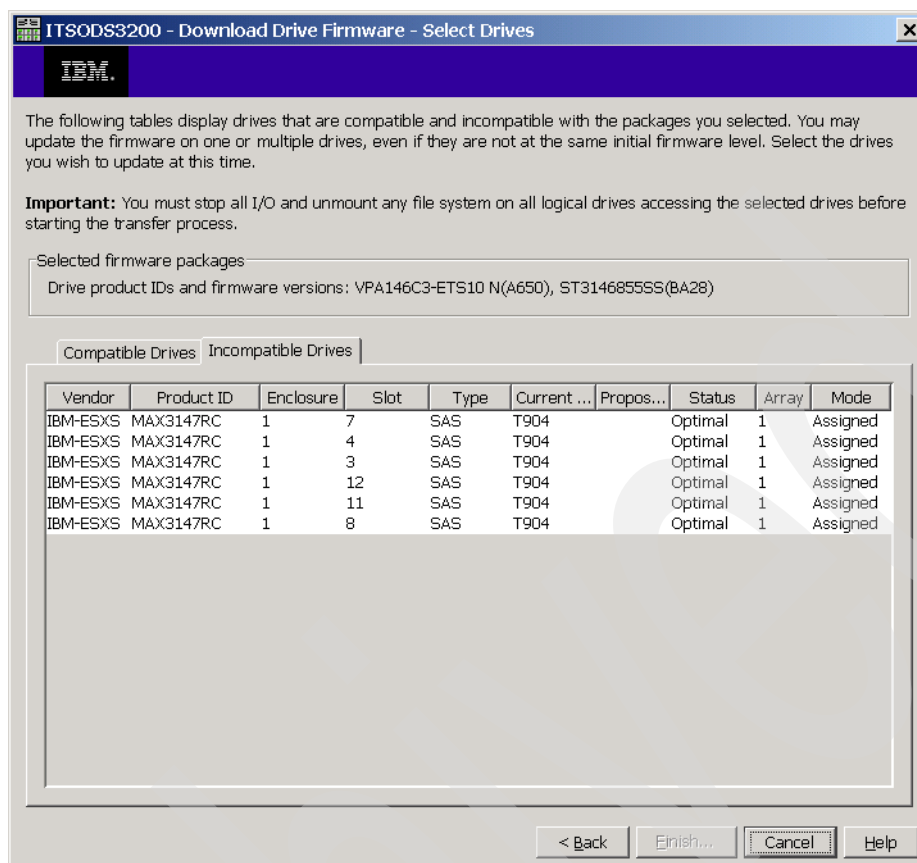

Figure 14-31 Incompatible drives
- The drives that are not compatible for the selected updates are shown on the Incompatible Drives tab (Figure 14-31 on page 323). These are other drive types, and you will have to use other firmware packages.